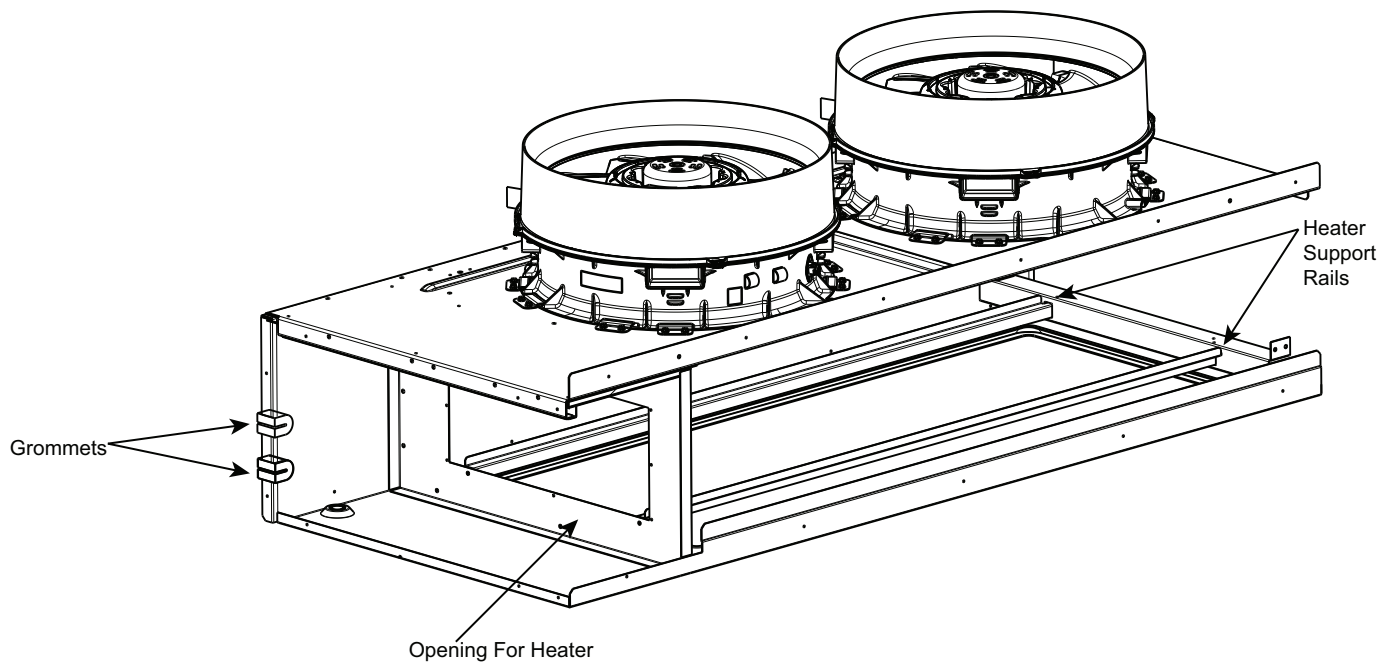

Fig. 41 — Opening for Electric Heater
4. Insert heater assembly through opening where block-off plate was previously removed. Let back end of heaters slide along support rails beneath fan deck. (See Fig. 41.)
6. Route heater power wires through grommeted notches in vertical fan deck support. (See Fig. 41.) Continue routing wires under coil and filter support through the bottom